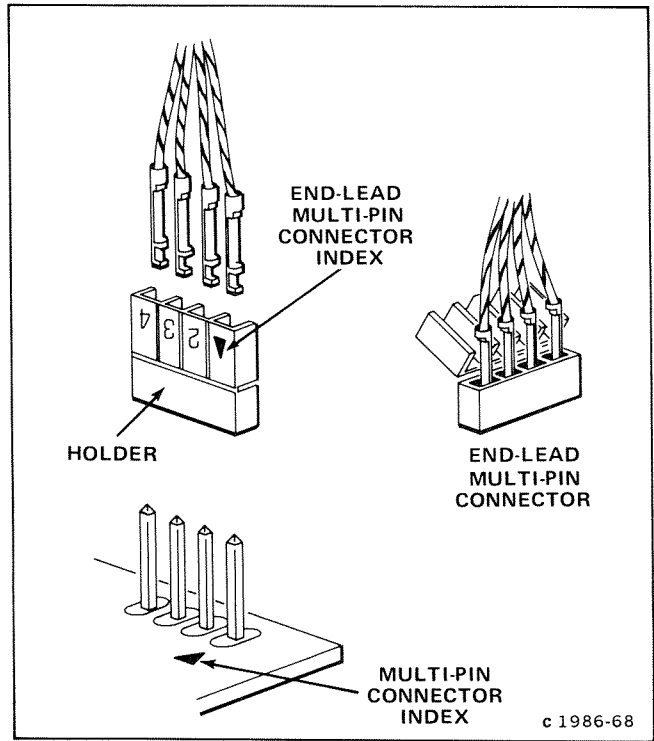

Figure 4-4. End-lead multi-pin connector assembly.
Multi-pin connectors mate with groups of pins soldered to circuit boards. Pin number 1 is indexed with a triangular mark on the circuit board and molded on the holder of the multi-pin connector, as shown in Figure 4-4. Each group of pins is identified by its corresponding J number etched on the circuit board. J numbers on the circuit boards correspond with J and P component numbers on the schematic diagrams.
2. Note color of other multi-pin connectors and J numbers to which each is attached (see Fig. 4-4 for identification).